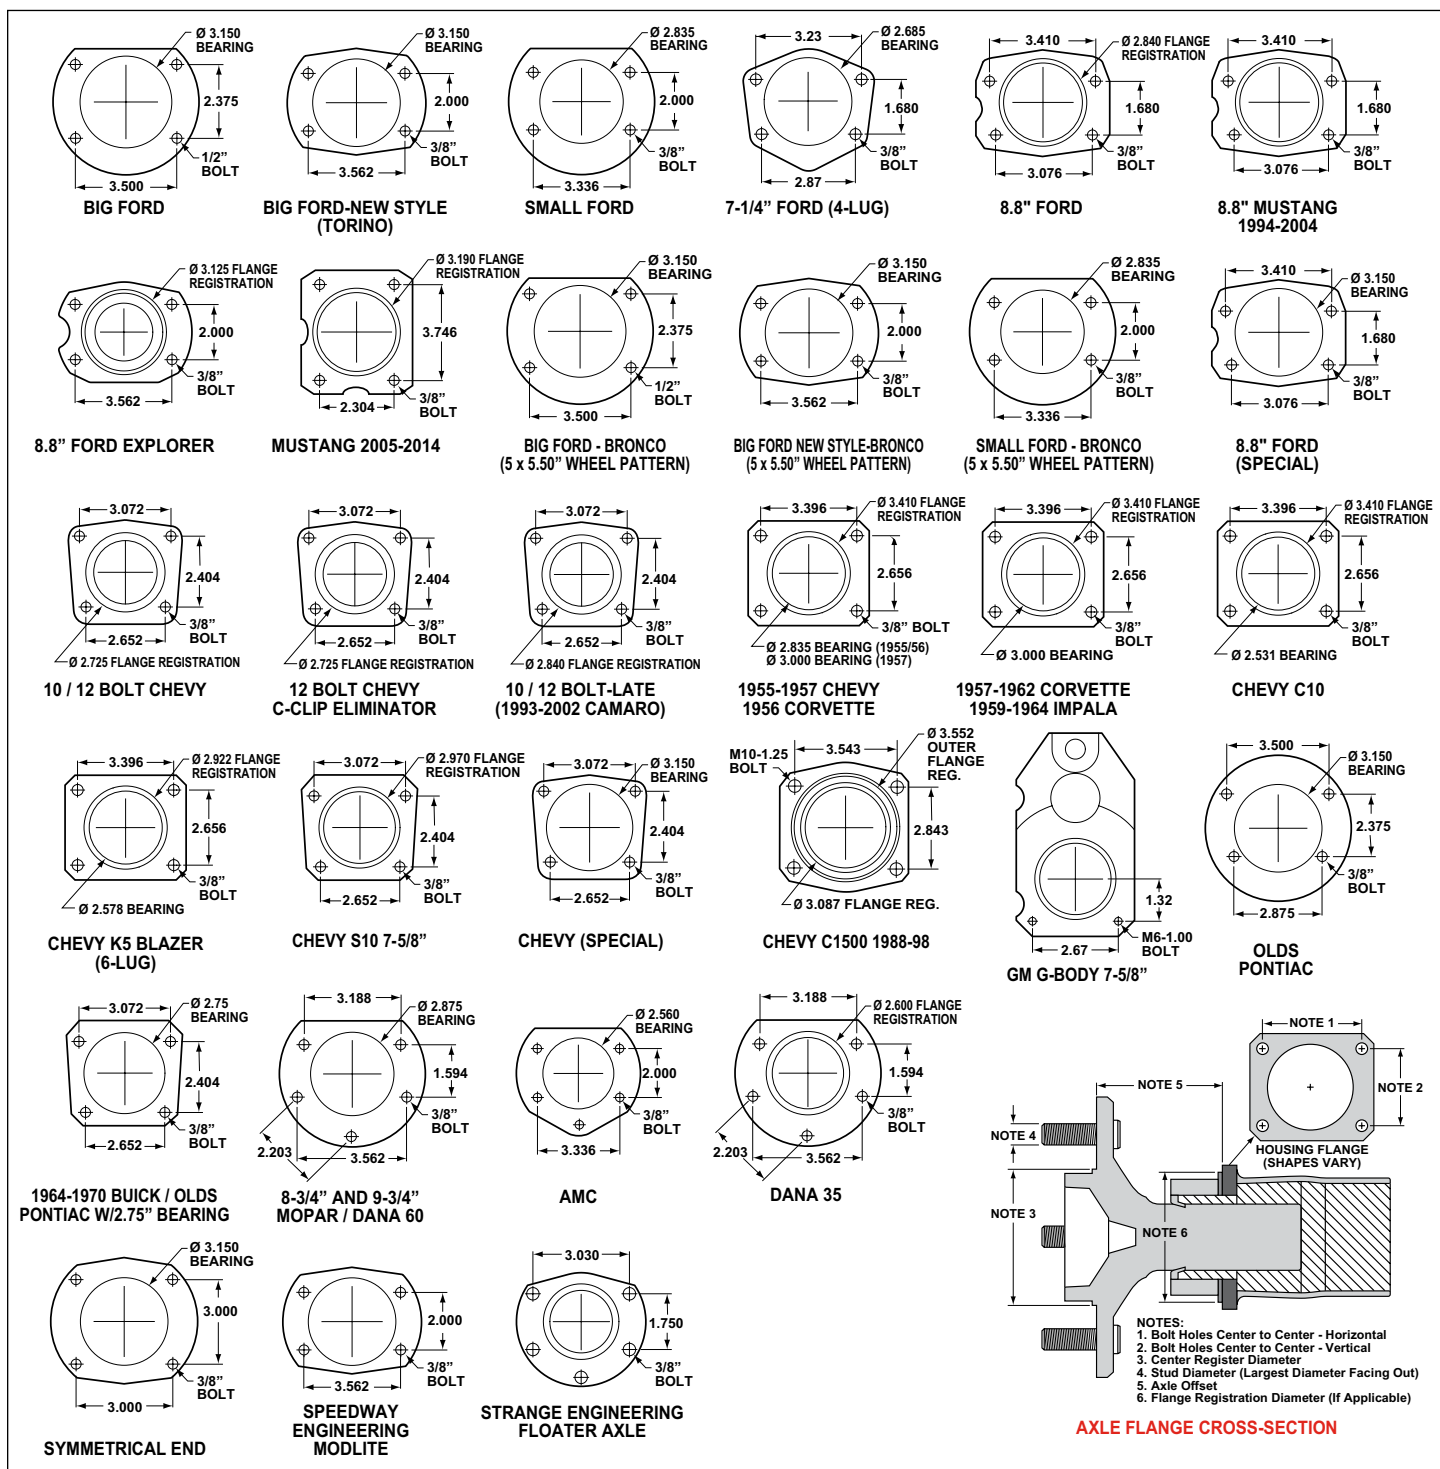

Figure 4. Rear Housing Flange Chart and Axle Flange / Offset Cross-Section
- Axle housing flange registration diameter, Figure 4.
- Dimension from wheel side of axle flange to wheel side of axle housing flange (see Figure 4, lower right hand corner). This dimension is critical to ensure proper alignment of the rotor to the caliper, and should match offset given in the kit description.